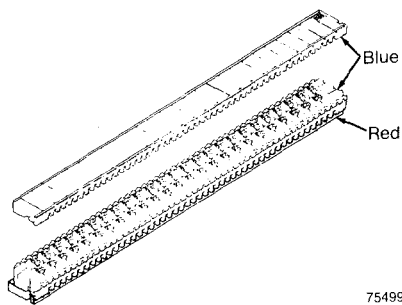

Fig. 2—Super Mini Bridging Modules.
- 2.02 The 4005-D (dry) or 4005-C (encapsulated) Super Mini Bridging Module is designed to add an additional set of conductors to a 4000 Series Module. It consists of three components; a body, cover, and a red protector that is used for pretermination. This connector also contains test entry ports. See Figure 2.